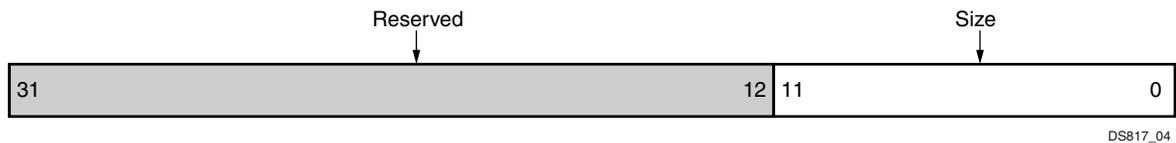

Figure 2-6: Size Register (SZ)
The Size (SZ) register shown in Figure 2-6 is a 12-bit write only register that determines the number of 32-bit words to be transferred from the ICAPEn to the read FIFO. (This means how many 32-bit data beats are expected.) The bit definitions for the register are shown in Table 2-10.